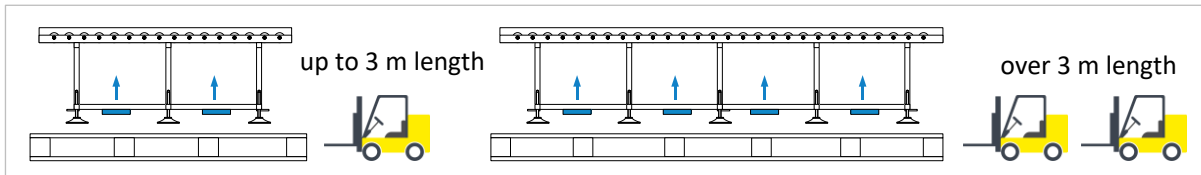

Figure 4: Lifting from the pallet with forklift truck
- Guide the appropriately spaced forks to the points marked in ⇒ Figure 4 (left).
- Guide the appropriately spaced forks to the points marked in ⇒ Figure 4 (right).